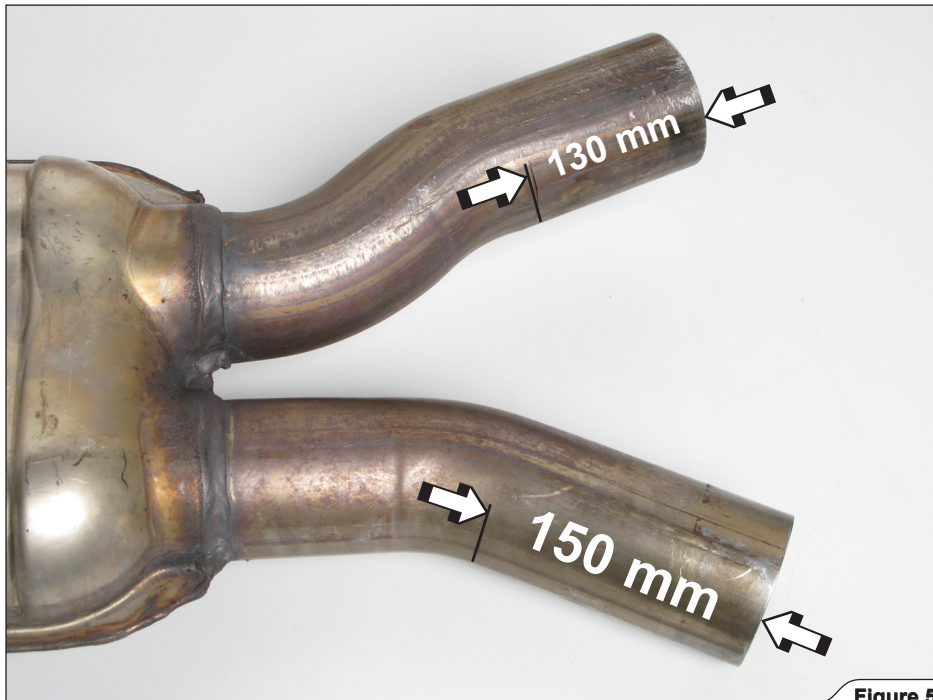

Figure 5
5. **For Slip-On only:** mark stock middle pipes looking from under the vehicle in direction of driving; **LEFT pipe: 150mm(5.9in)**, **RIGHT pipe: 130mm(5.12in)** from the end of the inner radius of the bends of the pipes, as shown in figures. Cut both pipes with angle grinder or equivalent (**Figure 5, 6**).